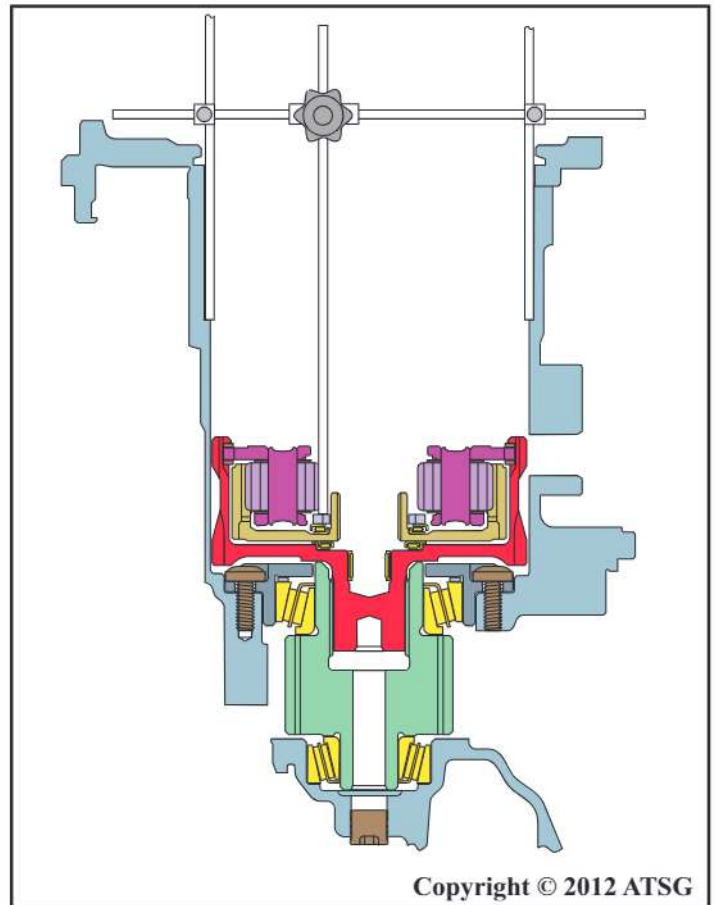

Figure 230
4. Lower the adjustment rod to the surface of the helical cut shim in the output planetary carrier, as shown in Figure 230, and tighten adjustment rod locking knob.